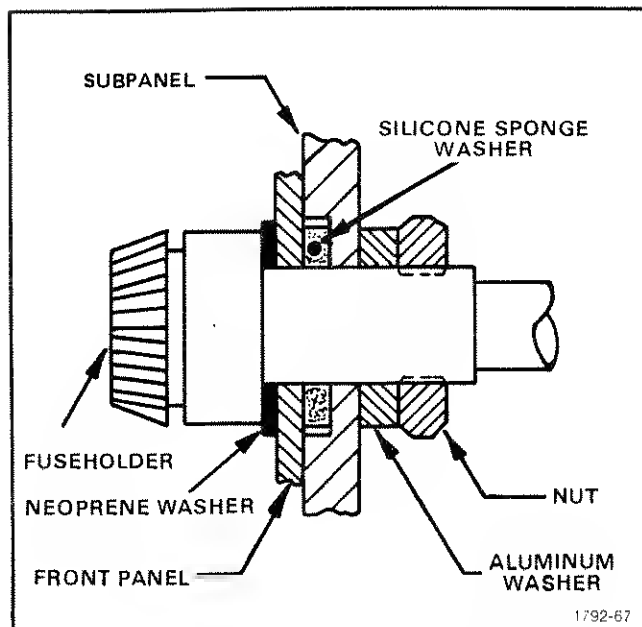

Fig. 5-13. Detail of Fuseholder Installation.
14. Install Fuseholders in Front Panel (see Fig. 5-13)
1. Install the two Fuseholders as shown in Fig. 5-13.